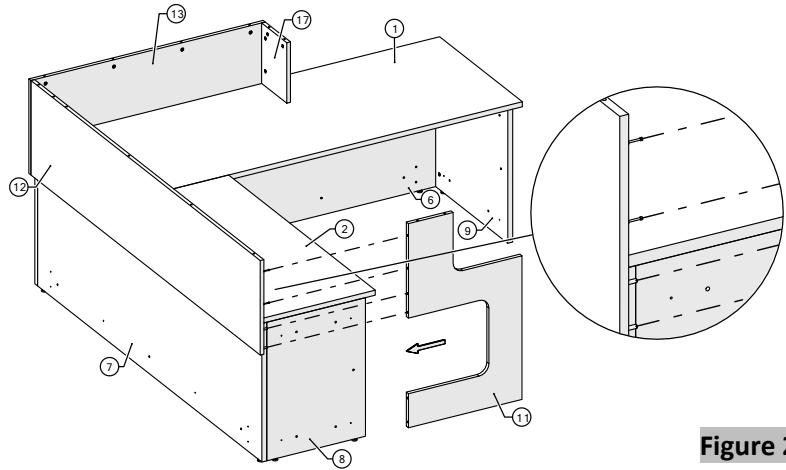

Figure 20
20. Position and align the assembled unit (border-upper front, border-upper return, and countertop gable) with the side and corner of the desk; connect the border-gable LH to the border-upper return and press tightly together by inserting the combi dowels and wooden dowels into the side holes of the border- gable LH (Figure 20).